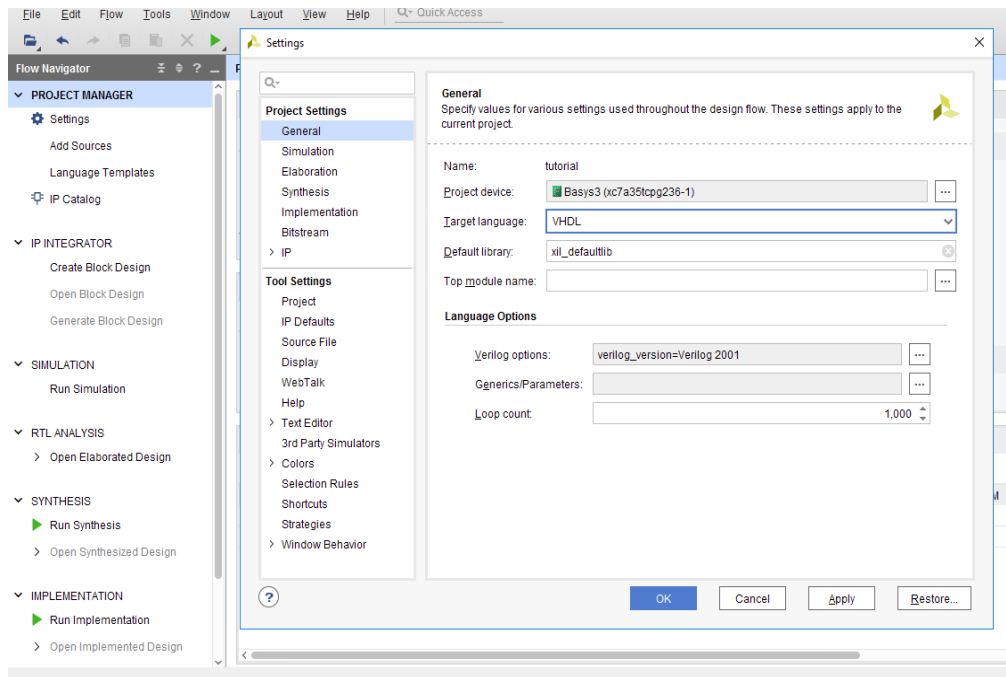

Figure 3
3. Choose **VHDL** as **Target language** and click **OK** (Figure 3)